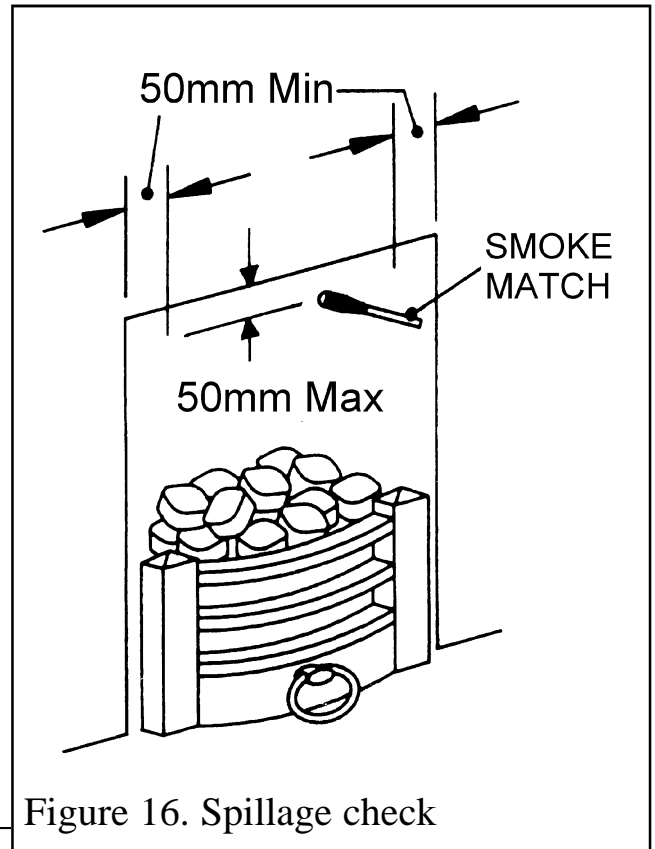

Figure 16. Spillage check
- A spillage check must be made before leaving the installed appliance with the customer. Make this with all the ceramic fuel effect pieces and firefronts / castings in position. (See figure 16 )